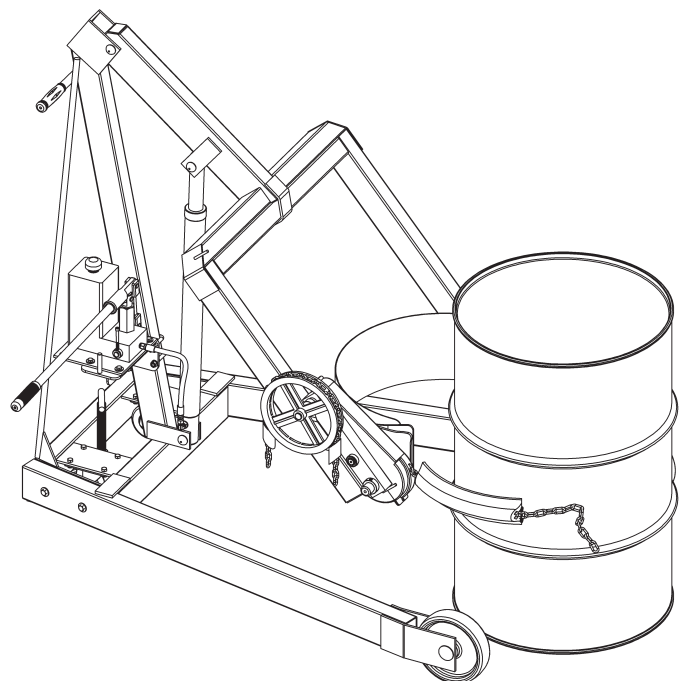

Figure 3.1
The step-down floor lock is located behind the base (figure 3.1). To activate, step down on the floor lock until it locks in down position. When floor lock is activated it prevents unwanted free wheeling of unit. Floor conditions determine effectiveness of floor lock. Operator should verify its holding action before depending on it to hold.
2. Using the "LIFT" control as described in "Machine Description - Controls", position the drum holder assembly with the back band at the middle of the drum (Figure 3.1). With the ratchet plate swung open and the cinch chain hanging from the chain hook, push the unit until the back band rests firmly against the drum. Some adjustment to the tilt angle of the saddle may be necessary to ensure band fits flush on the drum.